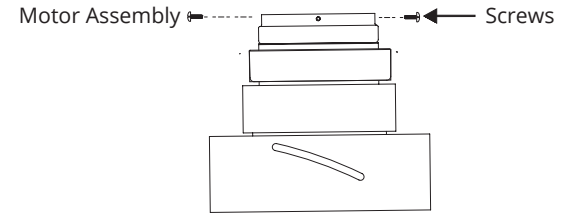

FIG. 6
2. Remove 1 of 2 screws from the bottom of mounting bracket and save for use in section 9. Loosen the other screw (**FIG. 6**).